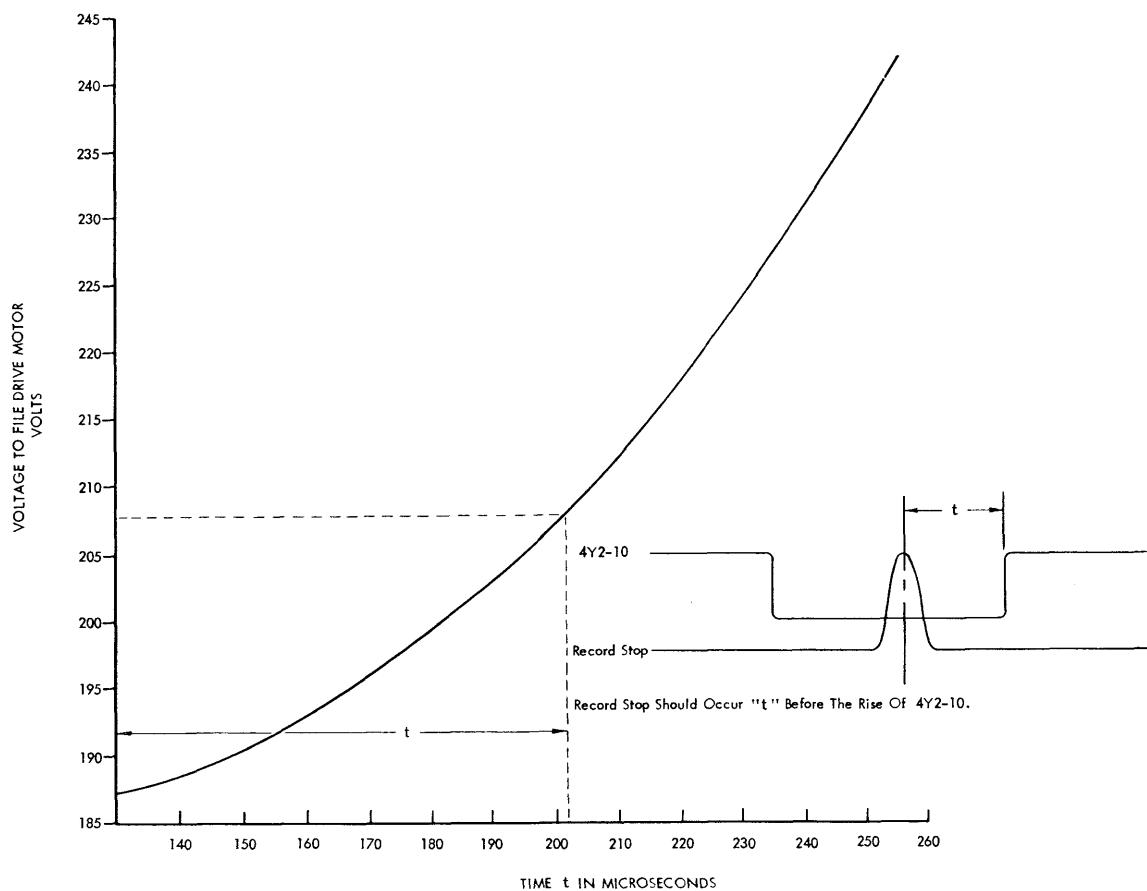

Figure 14. File Speed Interlock
(Figure 14)
4. Using the curve in Figure 14, determine the value "t" for the voltage recorded in Item 1.
8. Adjust the one meg pot between 4Z1-9 and 4Y2-6 (3.01.08) so that the center of the record stop pulse will occur "t" time ahead of the rise of 4Y2-10. Use the "t" value determined in Item 4 (See Figure 14).